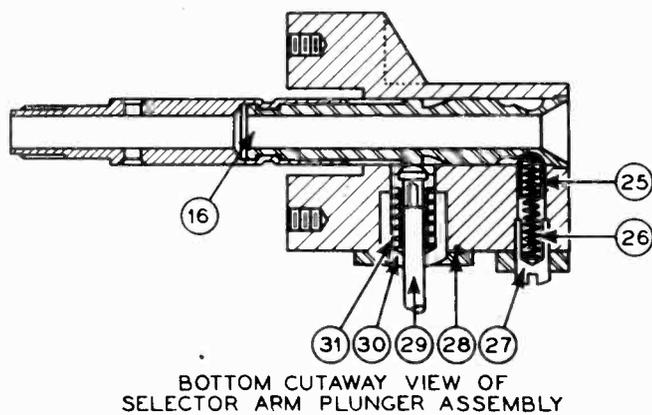

Fig. 3
Figure 3 is a bottom cross section view of the selector arm showing the audio shorting switch (29) and indexing plunger (25).